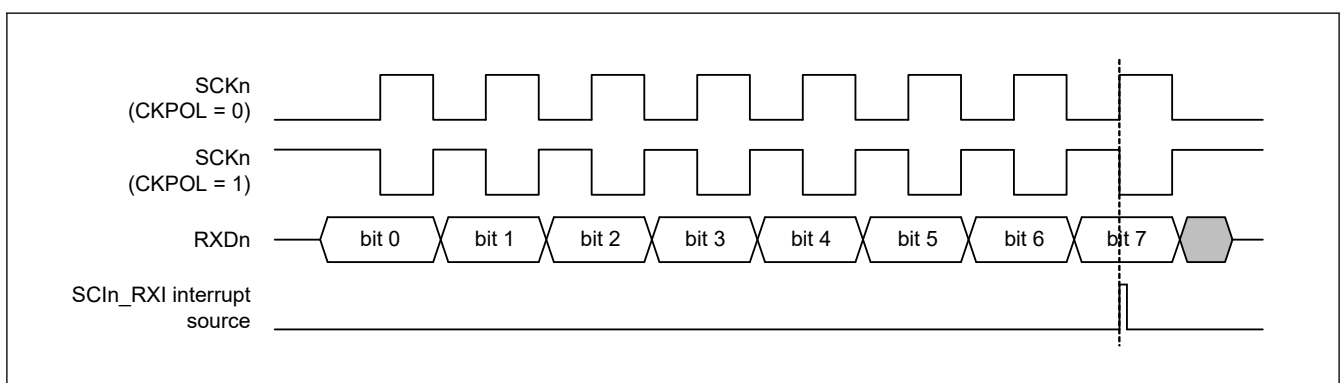

Figure 27.105 Timing of SCI_{In}_RXI interrupt in simple SPI mode with clock delay
- For the clock delay setting (SPMR.CKPH bit is 1), the receive data full interrupt (SCI_{In}_RXI) is generated before the final clock edge on the SCK_n pin as indicated in Figure 27.105. If the TE and RE bits in the SCR register become 0 before the final edge of the clock signal on the SCK_n pin, the SCK_n pin is placed in the high-impedance state, so the width of the last clock pulse of the transfer clock is shortened. Additionally, an SCI_{In}_RXI interrupt might lead to the input signal on the SS_n pin of a connected slave going to the high level before the final edge of the clock signal on the SCK_n pin, leading to incorrect operation of the slave.